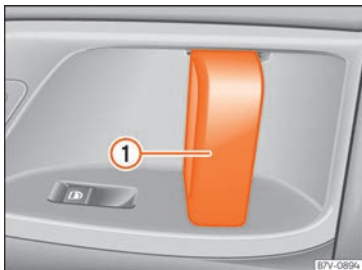

**Fig. 98** On the sliding door: door handle ①.
- When the sliding door is released, open the door fully by pulling on its interior handle » Fig. 98 ①.